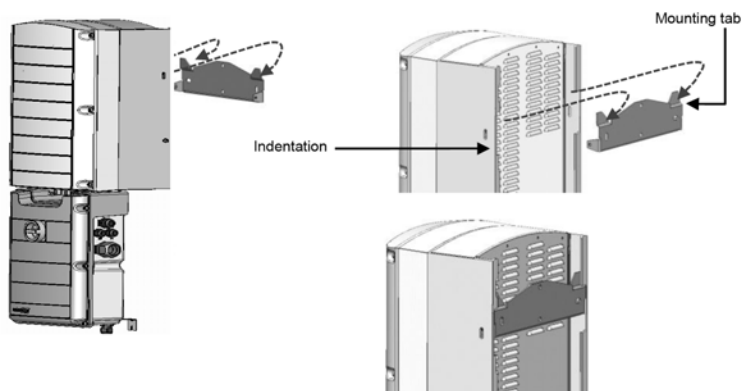

Figure 14: Hanging units
- Align the two indentations in the enclosure with the two triangular mounting tabs of the bracket, and lower the unit until it rests on the bracket evenly (see *Figure 14*).